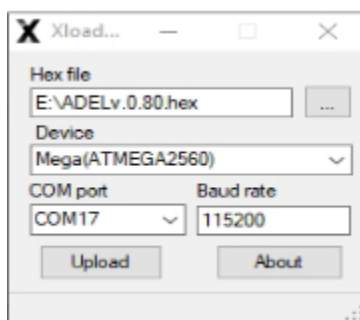

Figure 3 Xloader settings
9. Launch the Xloader updater program and configure Xloader according to Figure 3.